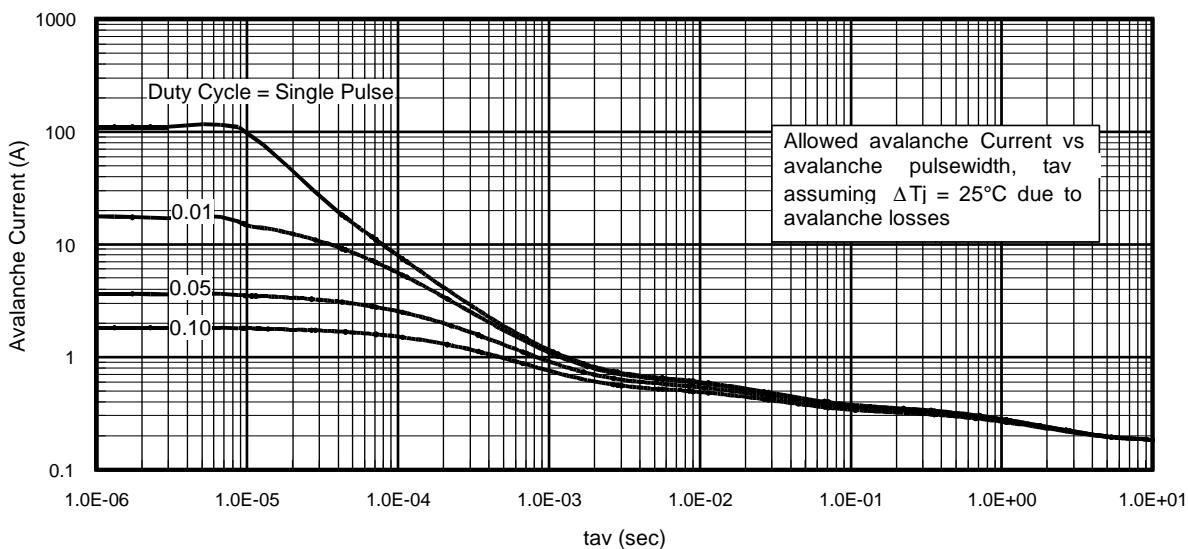

Fig 14. Typical Avalanche Current Vs. Pulsewidth
Notes on Repetitive Avalanche Curves , Figures 14, 15:
7. ΔT = Allowable rise in junction temperature, not to exceed $T_{j\max}$ (assumed as 25°C in Figure 14, 15).
- ① Repetitive rating; pulse width limited by max. junction temperature.
- ② Starting $T_J = 25^\circ\text{C}$, $L = 1.5\text{mH}$, $R_G = 25\Omega$, $I_{AS} = 13\text{A}$.
- ③ Pulse width $\leq 400\mu\text{s}$; duty cycle $\leq 2\%$.
- ④ R_θ is measured at T_J of approximately 90°C .
- ⑤ Limited by T_{jmax} . See Figs. 14, 15, 17a, 17b for repetitive avalanche information.